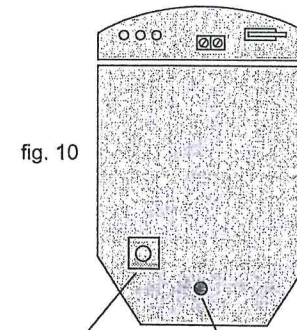

fig. 10
The user can individually programme a number of configurable settings as illustrated in the programming chart. Factory settings are shown as shaded boxes. Changes to the existing settings can easily be made. To reset the factory settings simply remove power from the detector, press and hold the programme button (fig. 10) whilst temporarily applying power to the detector: either before installation, with a PP3 battery, or by applying 12 Volts to the unit on site.
- 1) Press the programme button as shown in fig. 10 for the number of the Option to be changed i.e. once for range, twice for pulse count, three times for LED.